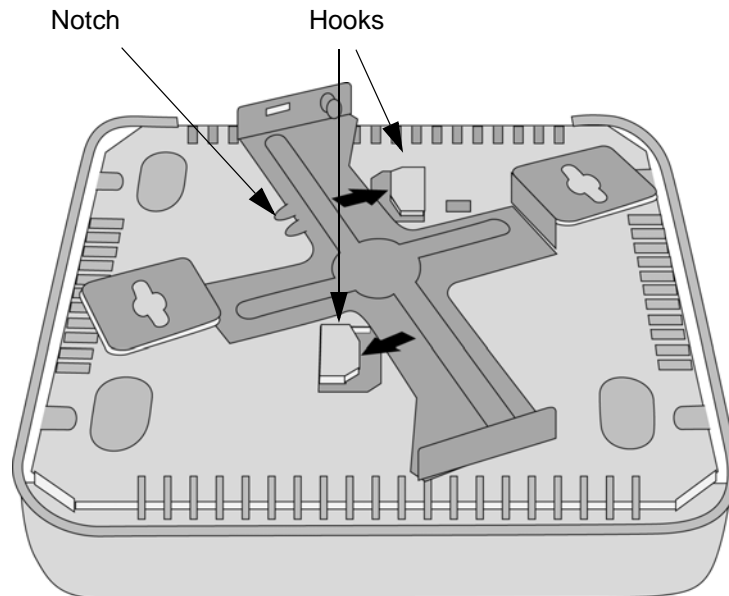

Figure 11. Locking Bracket to Access Point
3. Turn the bracket in the direction of the arrows shown in Figure 11 until the two hooks hold the bracket: The stopper nub pops up, and the bracket locks in place.